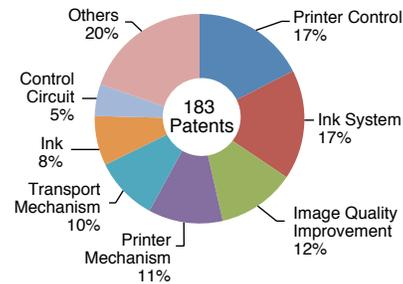

Figure 13. OKI's Published Wide Format Inkjet Patent Categories
**Figure 13** is the ratio of OKI's patents by category published from 2010 to 2015. Patents related to printer control, ink system, image quality improvement and transport mechanism account for about 60% of the total. Print head and ink, which are key elements of an inkjet printer, utilize OKI's technologies described earlier and their implementation in the product helps balance high-speed printing with image quality. The technology developments are directly linked with the provision of value to customers and are believed to be the differentiating technologies. OKI will continue with the technical development of products that fully utilize the latest print heads and high performance inks developed to meet market needs.